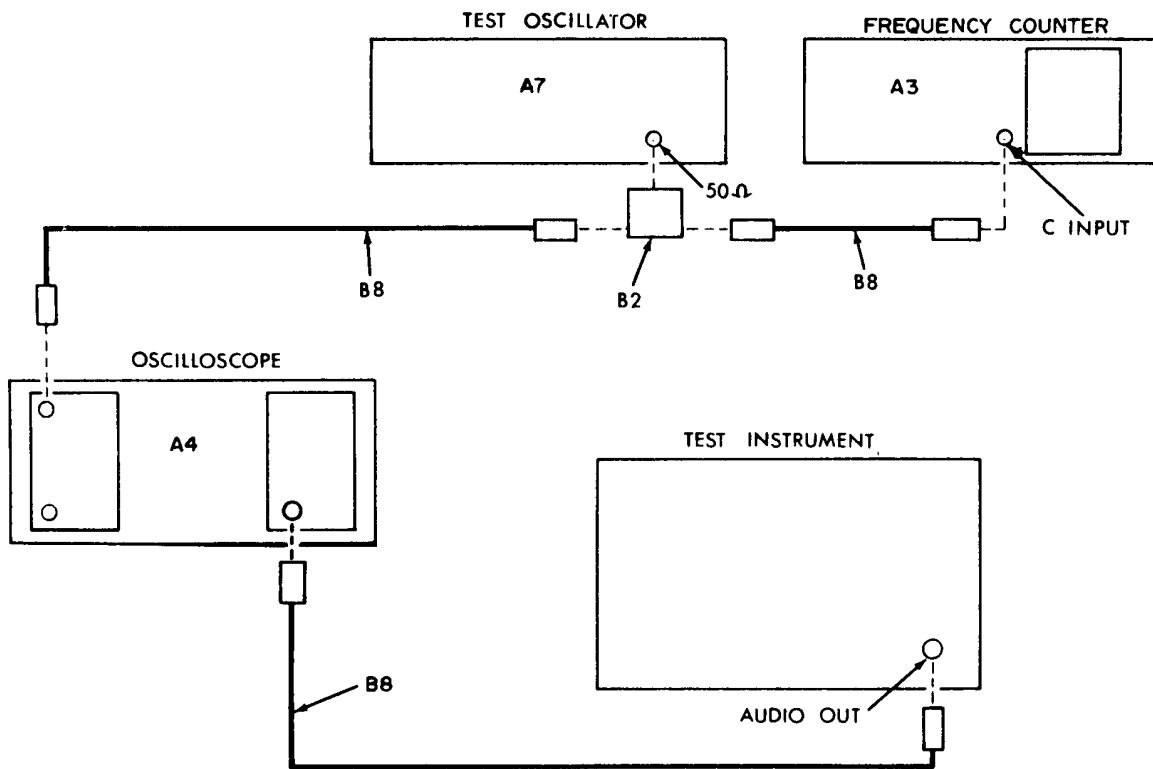

Figure 7. FM deviation ratio - equipment setup.
- (1) Connect equipment as shown in figure 7.